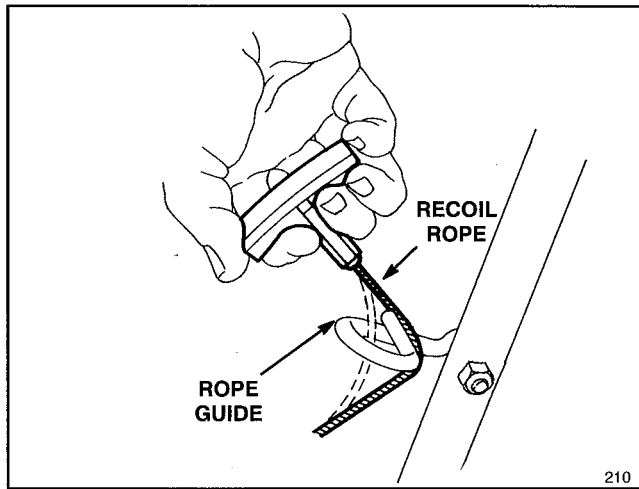

Figure 4
9. Pull recoil rope through loop opening on handle (Fig. 4). By squeezing the control bar on handle, blade brake will release and allow rope to be pulled up easily to loop.